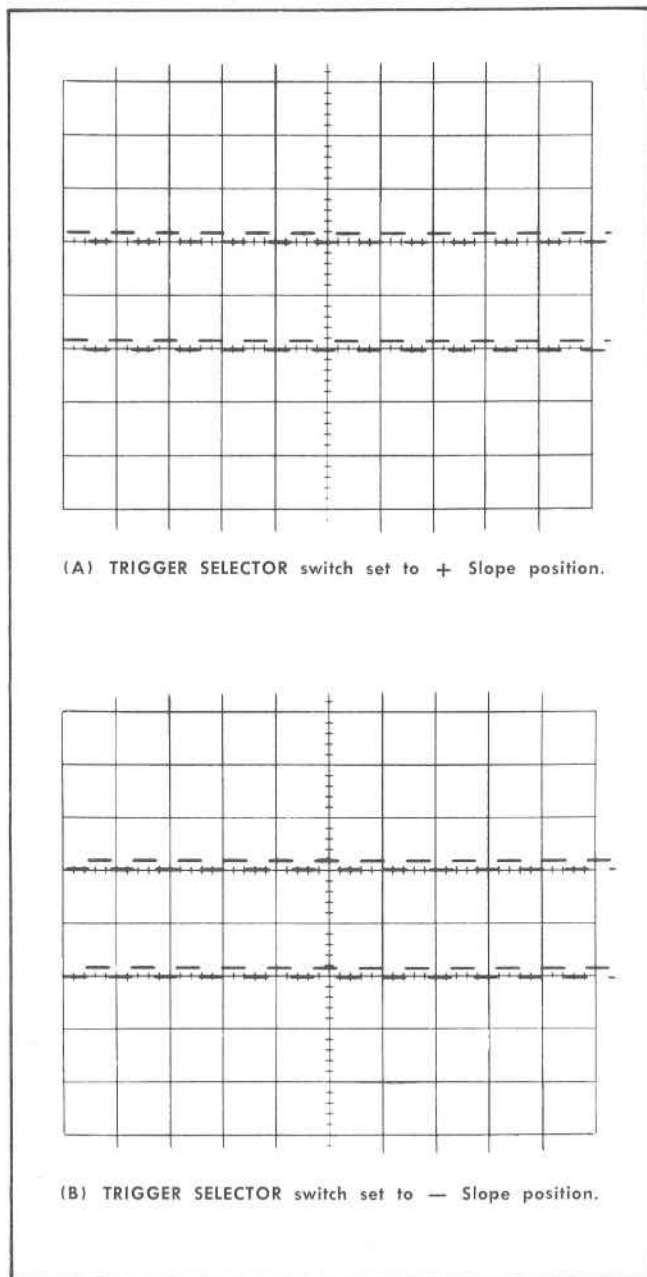

Fig. 5-8. Typical CRT displays showing effect of TRIGGER SELECTOR SLOPE switch (step 26d).
- Check that a stable display can be obtained with the TRIGGER LEVEL control properly adjusted near midrange. The display should start on a positive slope when the TRIGGER SELECTOR slide switch is set to + and on a negative slope when the slide switch is set to - (see Fig. 5-8).